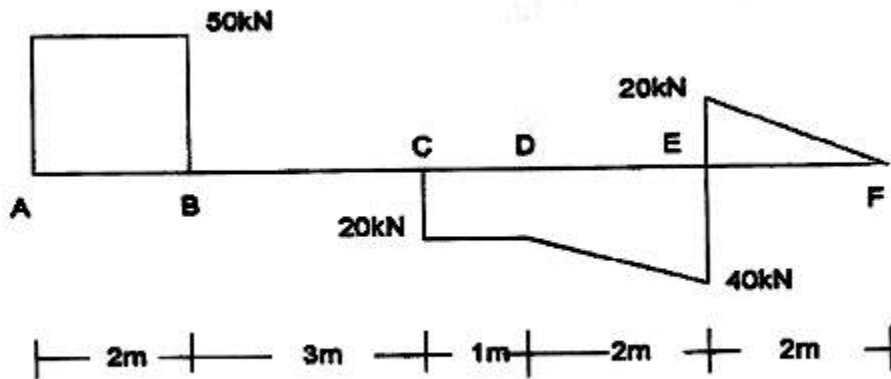

Fig. 4
4. (a) Construct the corresponding loading diagram and B.M.D. for the beam whose S.F. diagram is as shown in Fig. 4. [10]